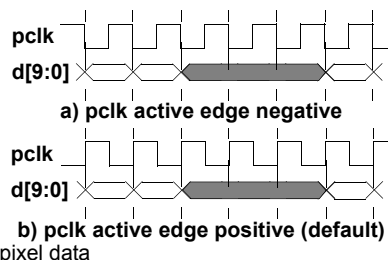

Figure 33. pclk in Free Running Mode
- In free running mode, (the *PixClkMode* bit of *DVBUSCONFIG1* register is set to a logic 0), the pixel clock output pin, **pclk**, is always running with a fixed period. Pixel data appearing on the digital video bus **d[9:0]** are synchronized to a specified active edge of the clock as shown in Figure 33.